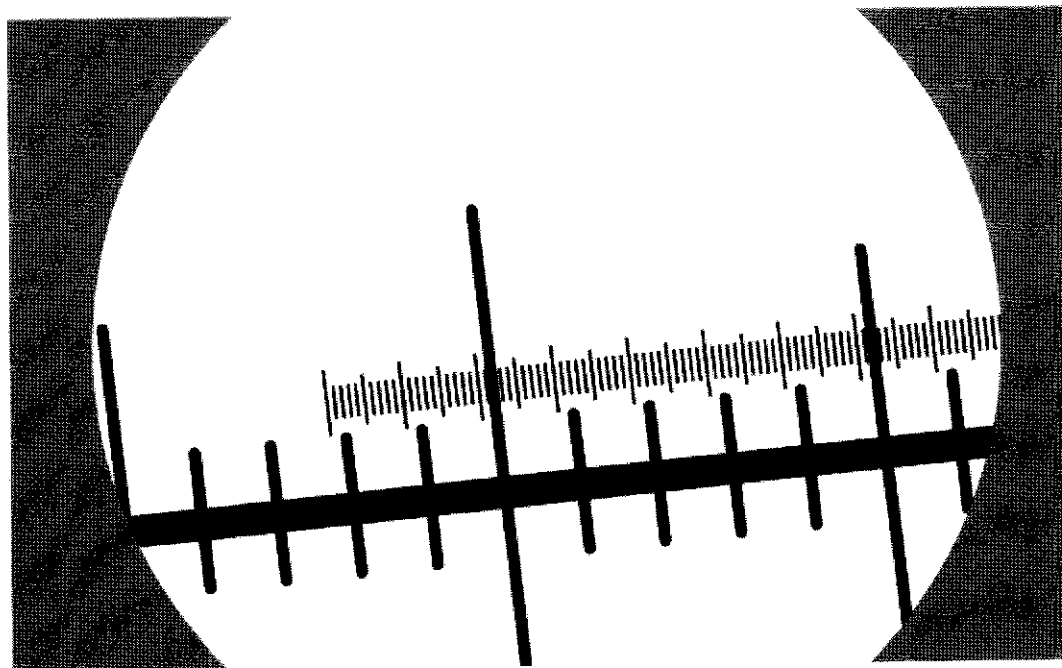

Fig. 3.5
- (ii) Fig. 3.5 shows a stage micrometer scale that is being used to calibrate an eyepiece graticule.
Using the eyepiece graticule shown in Fig 3.5, the width of a guard cell measures **3 eyepiece graticule divisions**.